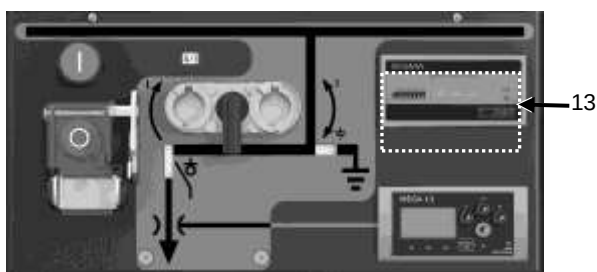

Figure 4-18: Overcurrent indicator
The overcurrent indicator (13), see Figure 4-18 is activated by an overcurrent.